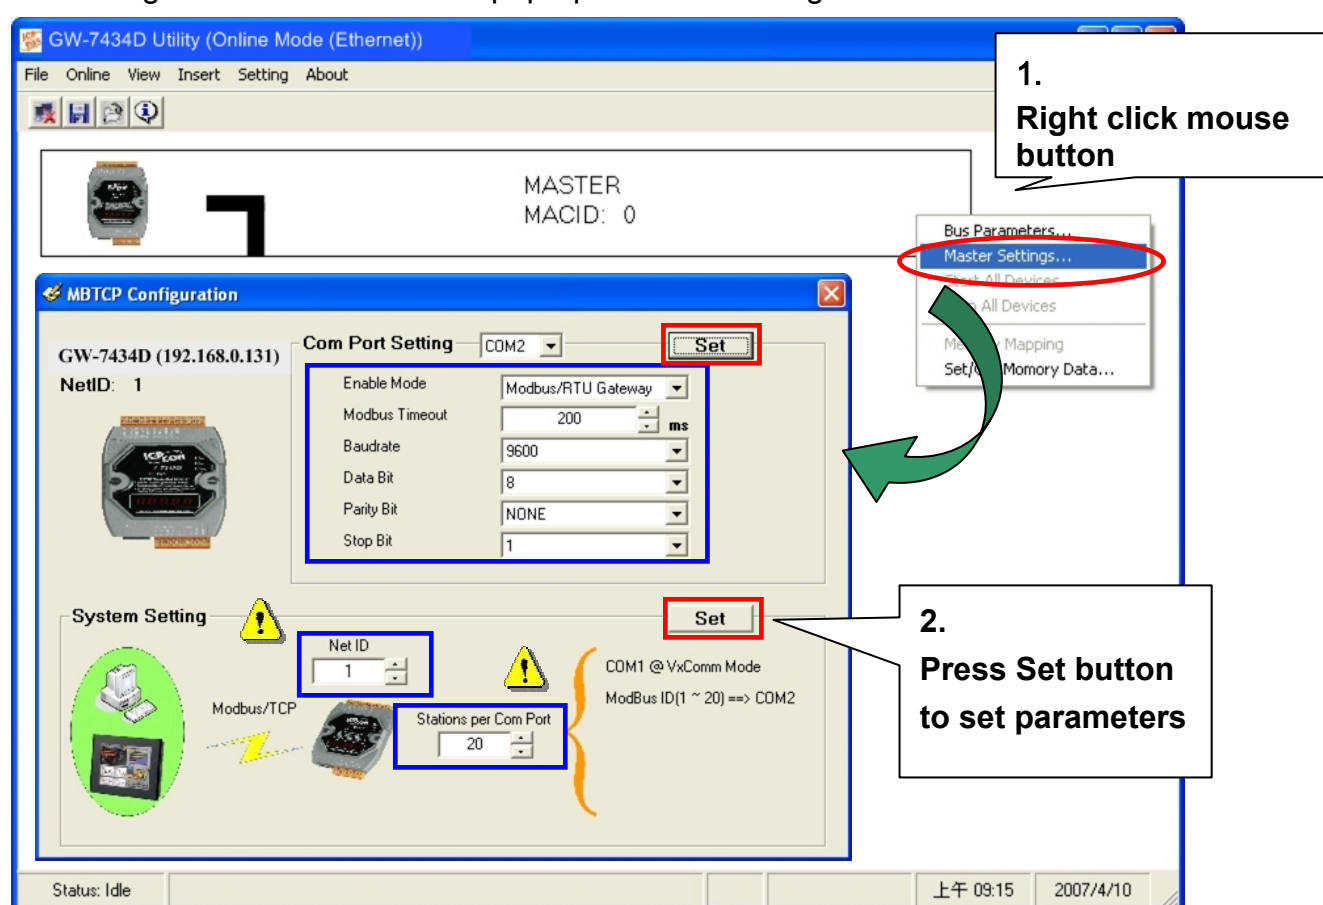

Figure 5-17: GW-7434D Configuration
3. Select the “Setting” item on the menu bar, or click the mouse right-button on the master frame, then click the “Master Settings...” item. Then the “MBTCP Configuration” window will be pop-up. As shown in figure 5-17.